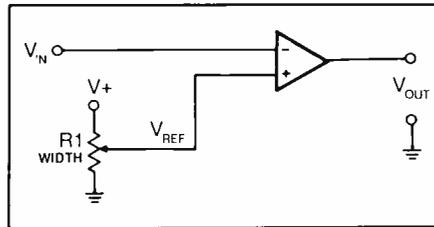
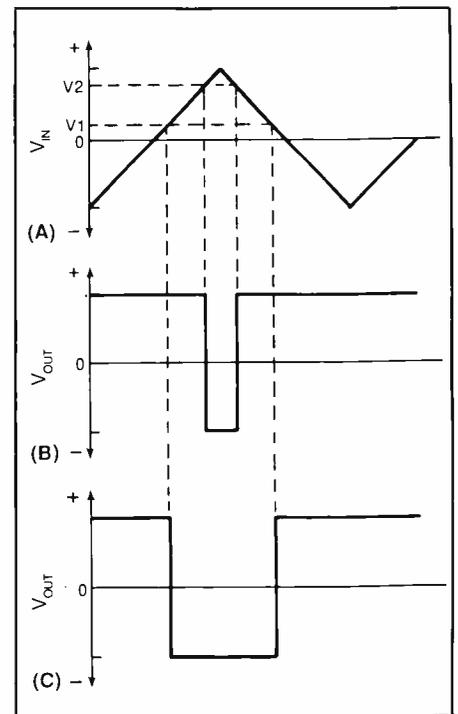

Fig. 2. A simple comparator circuit can be made from an ordinary operational amplifier run "wide open" with no feedback network.
Fig. 3. Waveforms from Fig. 2 circuit: (A) bipolar triangle input waveform and (B) output waveform when reference voltage is at $V1$ level.
basically an amplifier that has too much gain and, thus, saturates with a very-low-amplitude input signal. An op amp that is run wide open with no feedback network is an example of how a comparator can be made, as shown in Fig. 2.
The gain of the Fig. 2 circuit arrangement is the open-loop gain of the op amp. The open-loop gain of the inexpensive and commonly available 741 op amp, for example, is 300,000. So for a maximum output of 10 volts, the input saturates at an input level of 10 volts/300,000, which is a minuscule 33 microvolts! The output of a comparator can be summed up as follows: (1) When V_{in}
In Fig. 2, the comparator is shown wired so that a reference voltage is applied to the noninverting (+) input and the triangle waveform is applied to the inverting (-) input. Figure 3 shows the waveforms under two circumstances: (A) is the input waveform (a bipolar triangle waveform), and (B) is the output waveform when the reference voltage is at $V1$. In this case, the threshold is not tripped until near the peak of the triangle; so the output is low for only a short period of time. When the reference voltage is adjusted to the $V2$ level, however, the triangle waveform is greater in amplitude than the reference potential for a longer time. The result is a wider output pulse.